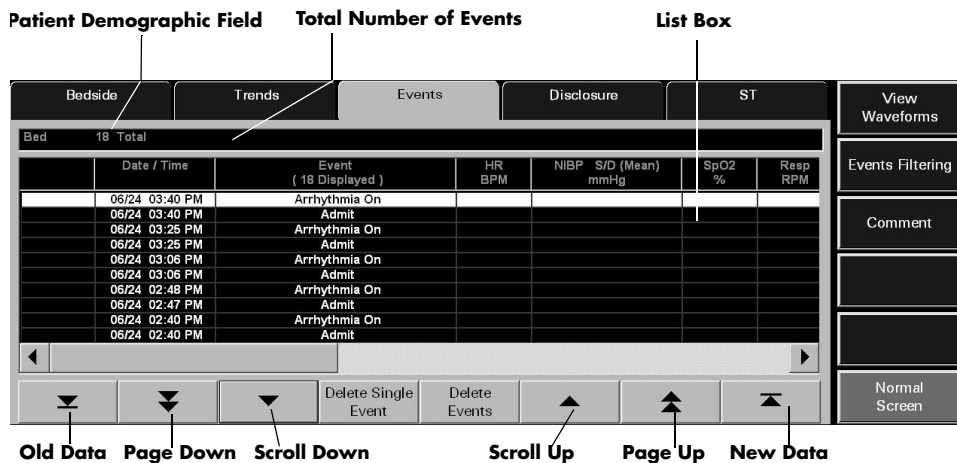

FIGURE 7-10 Events Tab - List View
2. Select the **Events** tab. The **Events** tab is displayed in the **List** view (shown in FIGURE 7-10).
When the **List** view is first selected, the top row in the list will be highlighted. The event record date and time is displayed in the first column, the event description is displayed in the second column, and the heart rate (HR) is displayed in the third column (shown in FIGURE 7-10). All subsequent columns display parameter data in the order specified in the **Unit Priorities** tab.